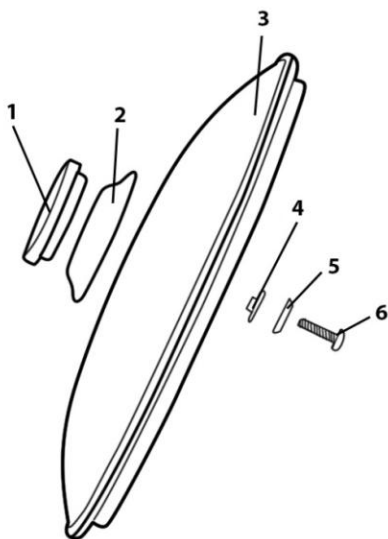

Figure 1
Follow the diagram (Figure 1) to assemble the knob on the Glass Lid (21).